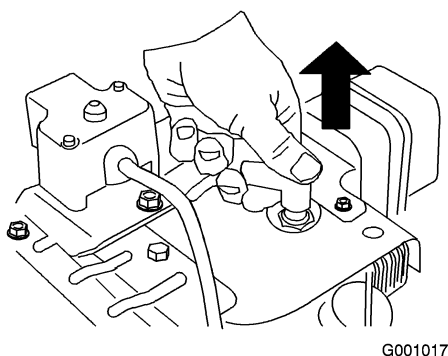

Figure 34
3. Disconnect the spark plug wire (Figure 34).